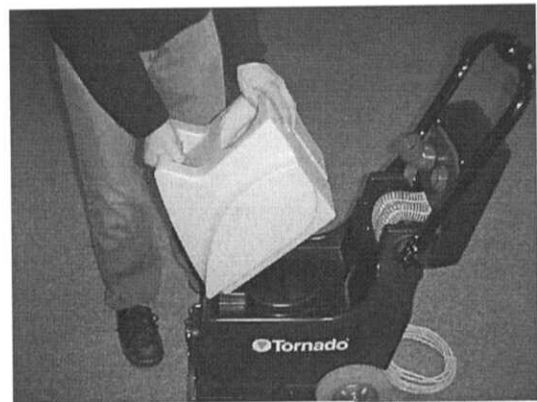

Figure 2
3. Hinge open cover and remove recovery tank from machine. Make sure the float shut-off screen and solution tank strainer are in place before use (Figure 2)